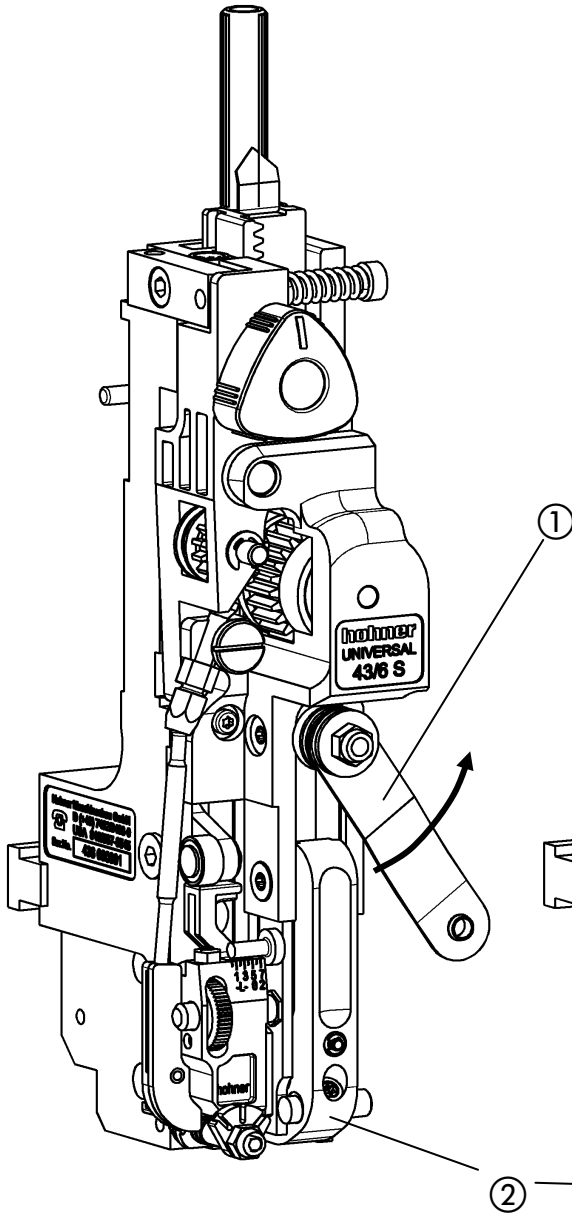
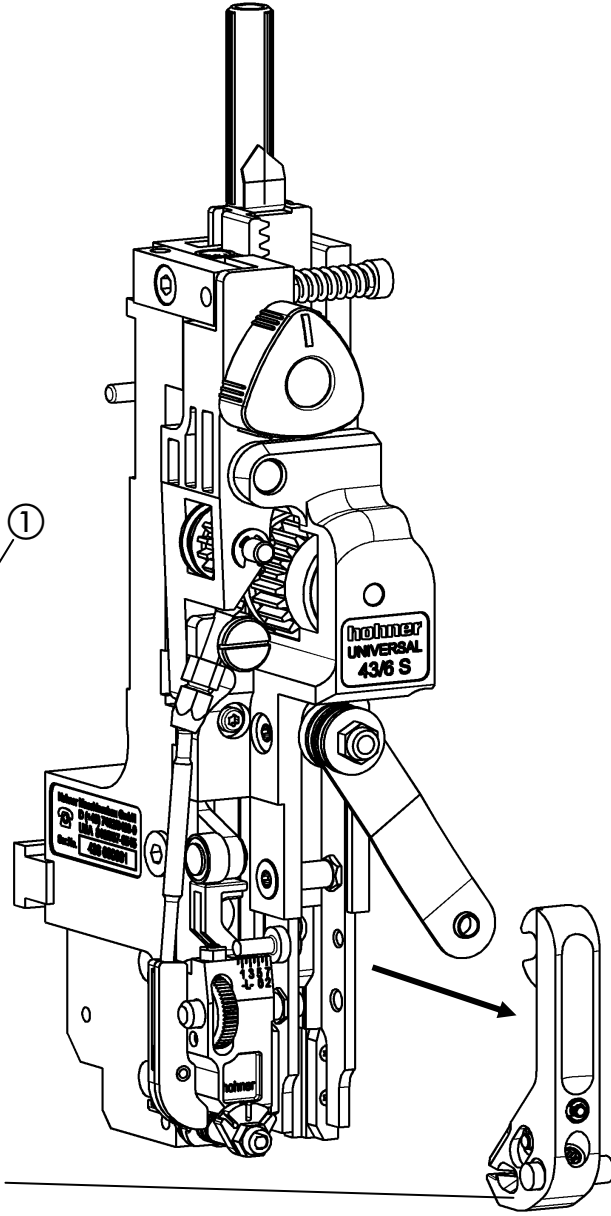

Fig. 23
Fig. 24
- Fig. 23, Fig. 24 -
- Turn leaf spring ① to the side and remove former ② forwards.